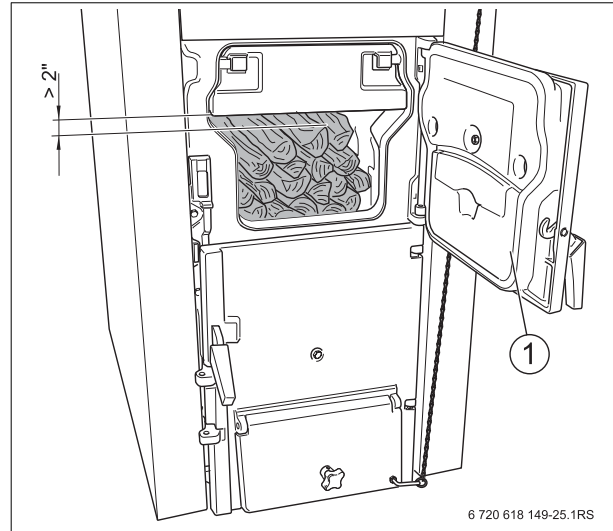

Fig. 12 Re-filling fuel: wood
**Note if you are burning wood:** only re-fill enough wood that there is a distance of at least 2 inches remaining between the uppermost log and the upper edge of the ignition chamber (→ Fig. 12).